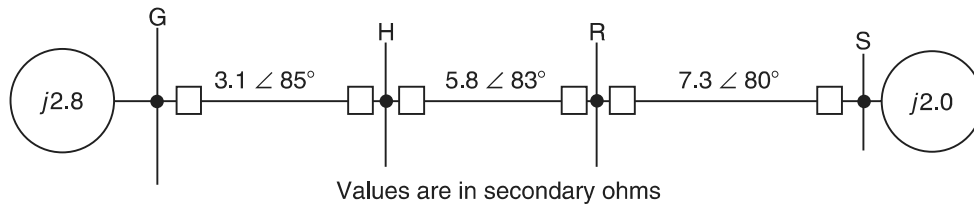

FIGURE P12.5
- Apply and set distance-type relays at Stations H and R for the protection of line HR in the system in Figure P12.5. Set zone 1 units for 90% of the protected line, zone 2 to reach 50% into the next line section beyond the protected line, and zone 3 for 120% of the next line section.